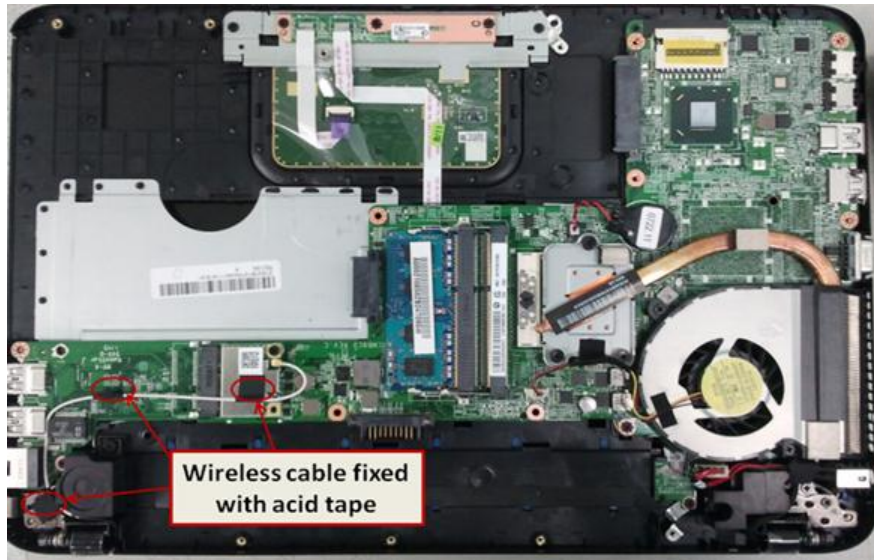

Figure 4-7-4 Cables layout on motherboard
4. Stick the tape of cables on the surface. If fail to stick, replace tape with new adhesive tape. (See Figure 4-7-4).